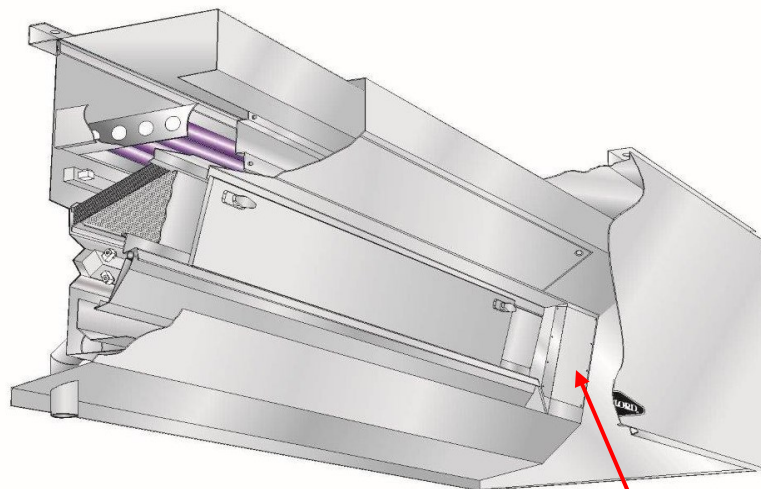

Figure 6-42-1
Model CG3-UVi Ventilators include a three position damper referred to as Baffle #1 in the Principle of Operation section of this manual (Refer to Figure 2-3-1, 2-6-1 and 2-8-1). The damper is driven by an 24 volt AC/DC Electric Damper Motor located behind an access panel at one end of the Ventilator (Refer to Figure 6-42-1 and 6-42-2). The damper motor is called a “motor drive, spring return” type motor and the mode of operation of the motor to the damper positions is as follows:
2. Remove the Damper Motor Access Panel (Refer to Figure 6-42-1).